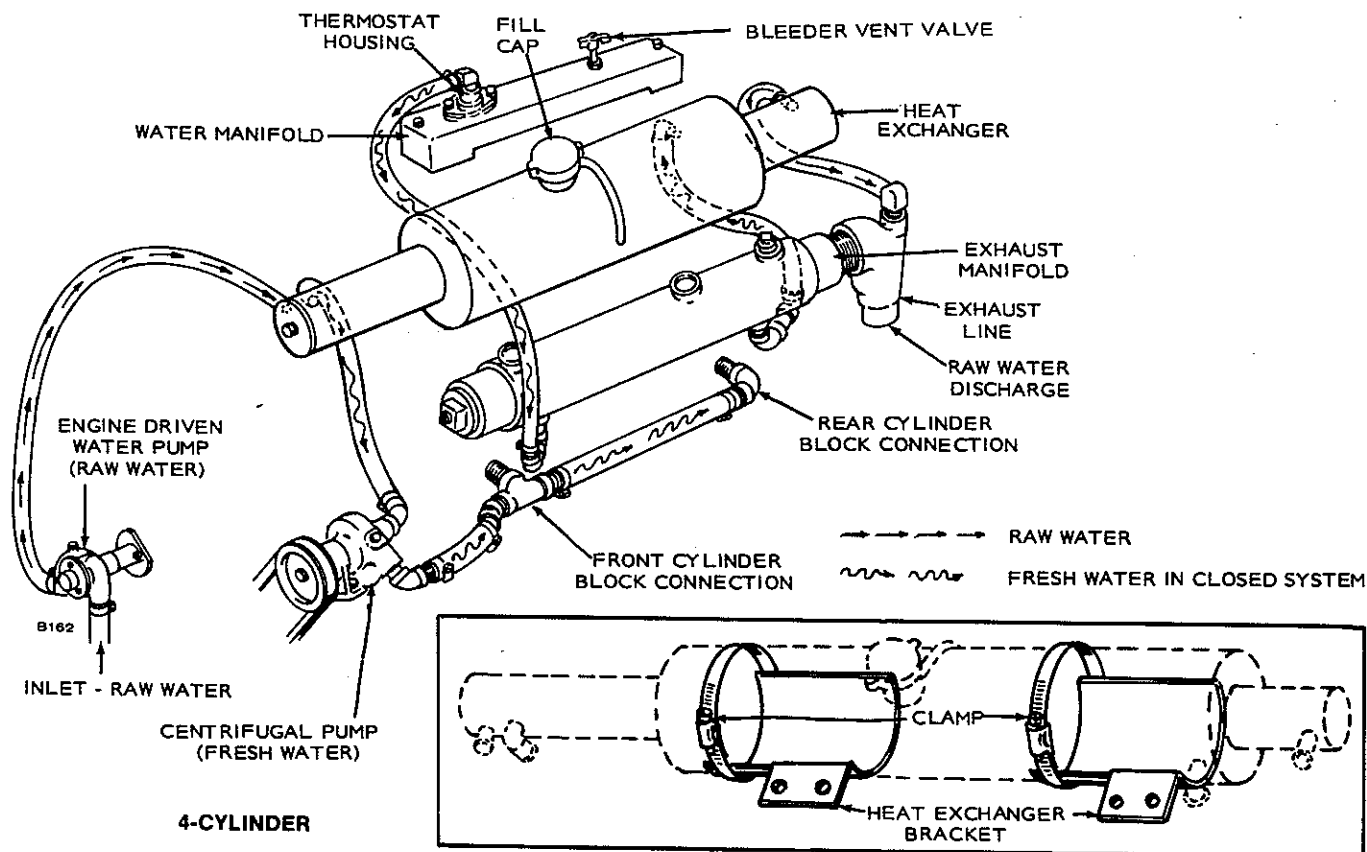

FIGURE 6-40. HEAT EXCHANGER HOSE SCHEMATIC (BEGIN SPEC D)
18. Install plumbing fittings furnished as follows, using a thread sealing compound on each (see Figure 6-40 for location and correct facing).
for the fresh water connections and the 1/3-inch hose for raw water connections. See Figure 6-40.